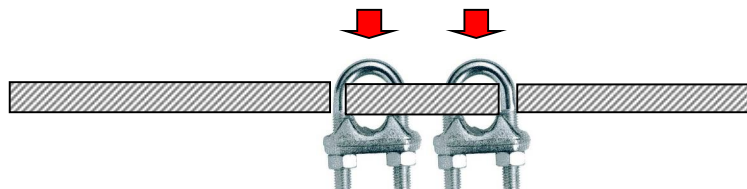

Fig. 16
- Now the two wire ropes (PART 3) connecting the head (PART 2) and the collar (PART 1) have to be stretched (fig. 16), by means of the two turnbuckles for every wire, in order to avoid that during the bushing's lifting operations the two wire ropes can move.